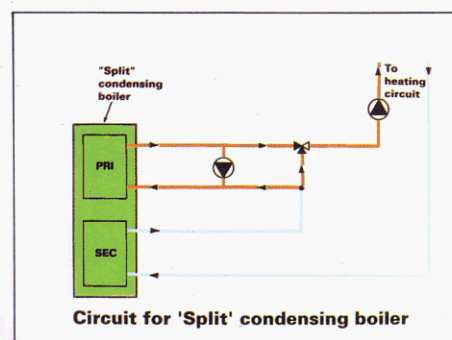

Figure 3
- They may also be piped separately (known as "split") see Fig 3.